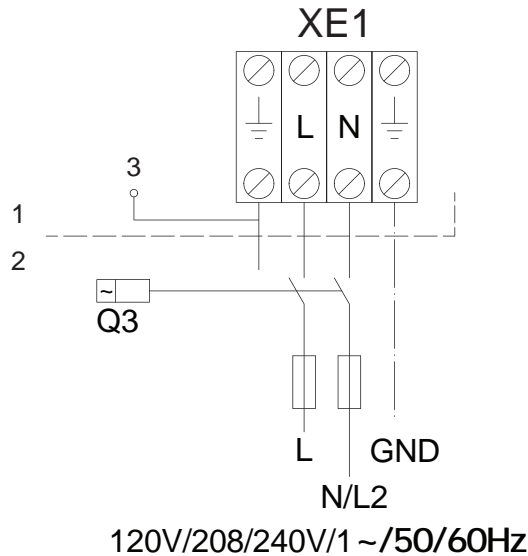

Figure 13 - Single-Phase Power Supply Connection
5. Connect the power supply (L1, N/L2, and GND) to the XE1 terminal block in the control cabinet. Refer to Figure 13 above.